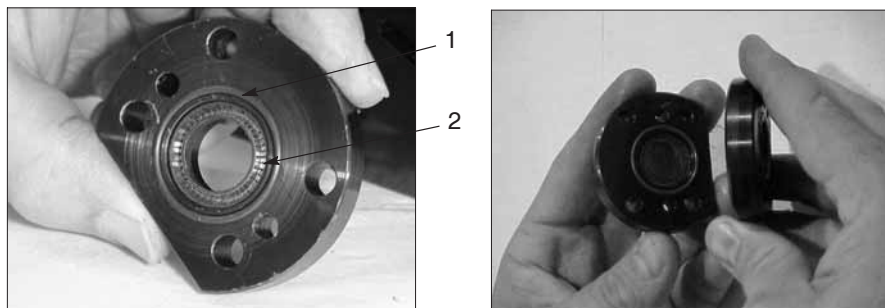

Figure 7-81 Installing the pump packing O-ring and spring seal
11. See Figure 7-81. Install the pump packing O-ring and spring seal in the pump packing plate.